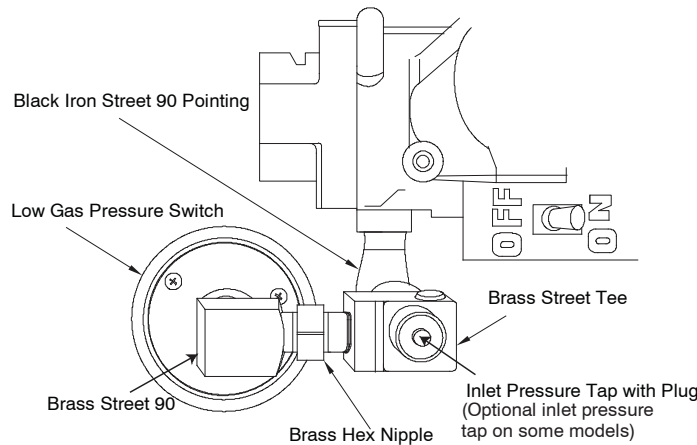
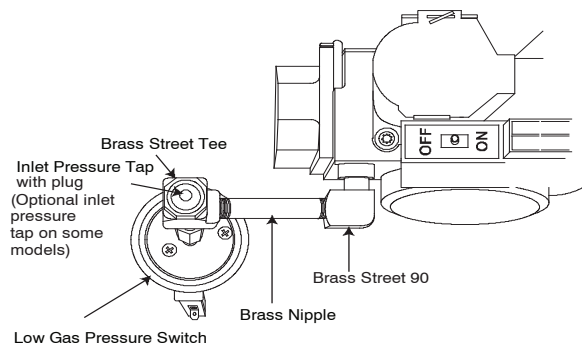

Fig. 18 – LGPS for 14-3/16 Casing or when vent passes between inducer and burner assembly A170141
Fig. 19 – LGPS for casing wider than 14-3/16 and vent does not pass between inducer and burner assembly A170142
If the vent pipe passes between the inducer and burner assembly, or the furnace is a 14 3/16-in. wide casing. The switch is installed as shown in Fig. 18.
1. Remove low gas pressure switch, brass street 90_ elbow, brass hex nipple, brass tee and black iron street 90_ elbow from the gas valve inlet pressure tap, see Fig. 18.
If the vent pipe does not pass between the inducer and burner assembly, or the furnace is wider than a 14 3/16-in. wide casing. The switch is installed as shown in Fig. 19.
1. Remove Low Gas Pressure Switch (LGPS), brass street tee, brass nipple and brass street 90° elbow from the gas valve inlet pressure tap, see Fig. 19.
1. On some models, remove 1/8-in. (3 mm) pipe plug from inlet pressure tap (see Fig. 18 and Fig. 19) and insert pressure tap. Or, on some models, loosen set screw on inlet tower pressure tap no more than one full turn with the 3/32-in. hex wrench, see Fig. 11 or Fig. 12.